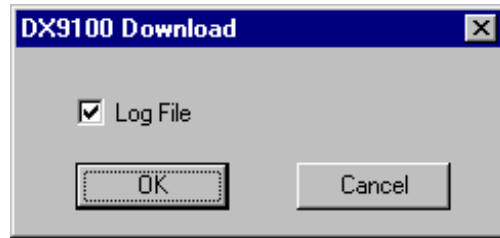

Figure 11-3: Download Dialog Box
9. Click Download to initiate the download process. The DX Download dialog box appears (Figure 11-3).